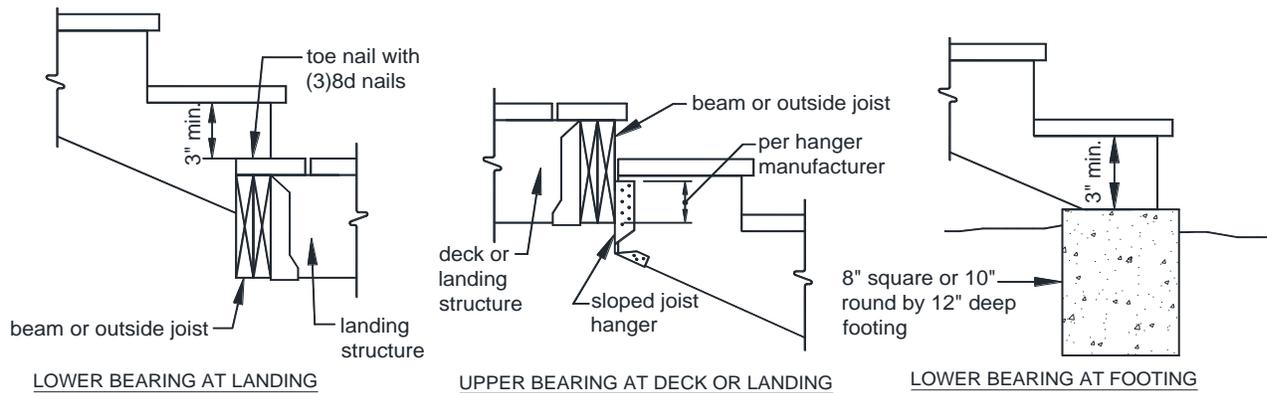

FIGURE 39: STRINGER BEARING
- Stringers shall bear on footings and attach to the deck or landing per FIGURE 39.